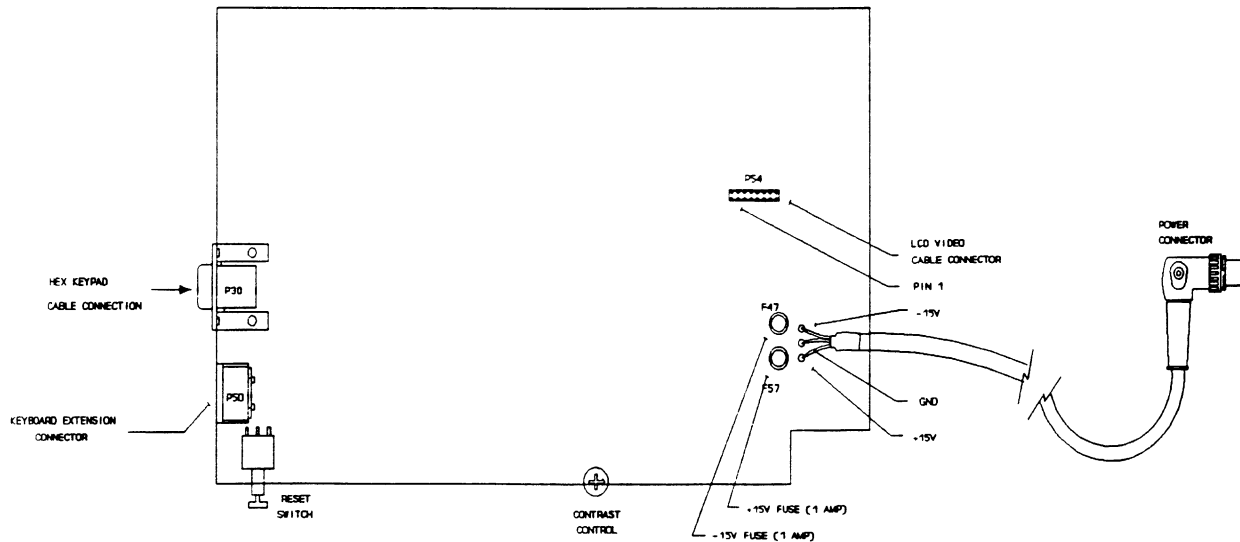

Figure 2: Controls and Indicators
7. Refer to Figure 2 (with Display in extended position or removed).